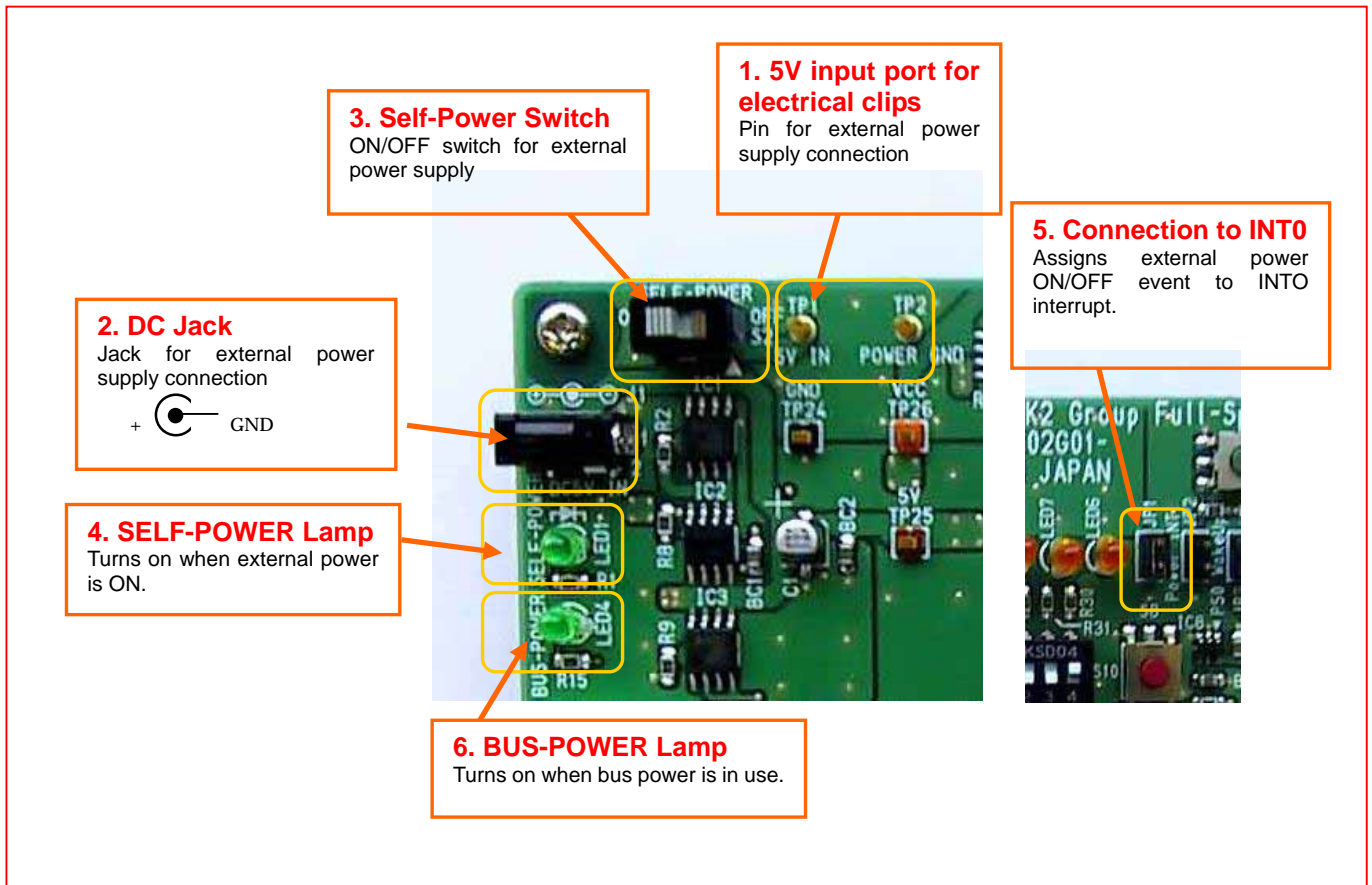

Figure 1.5 Power Supply Areas
To run M3A-8K02 on self-power, connect the external supply through TP1 (1) or the DC jack (2), as shown in Figure 1.5. The polarity of the DC jack is “GND” internally and “+” externally. +